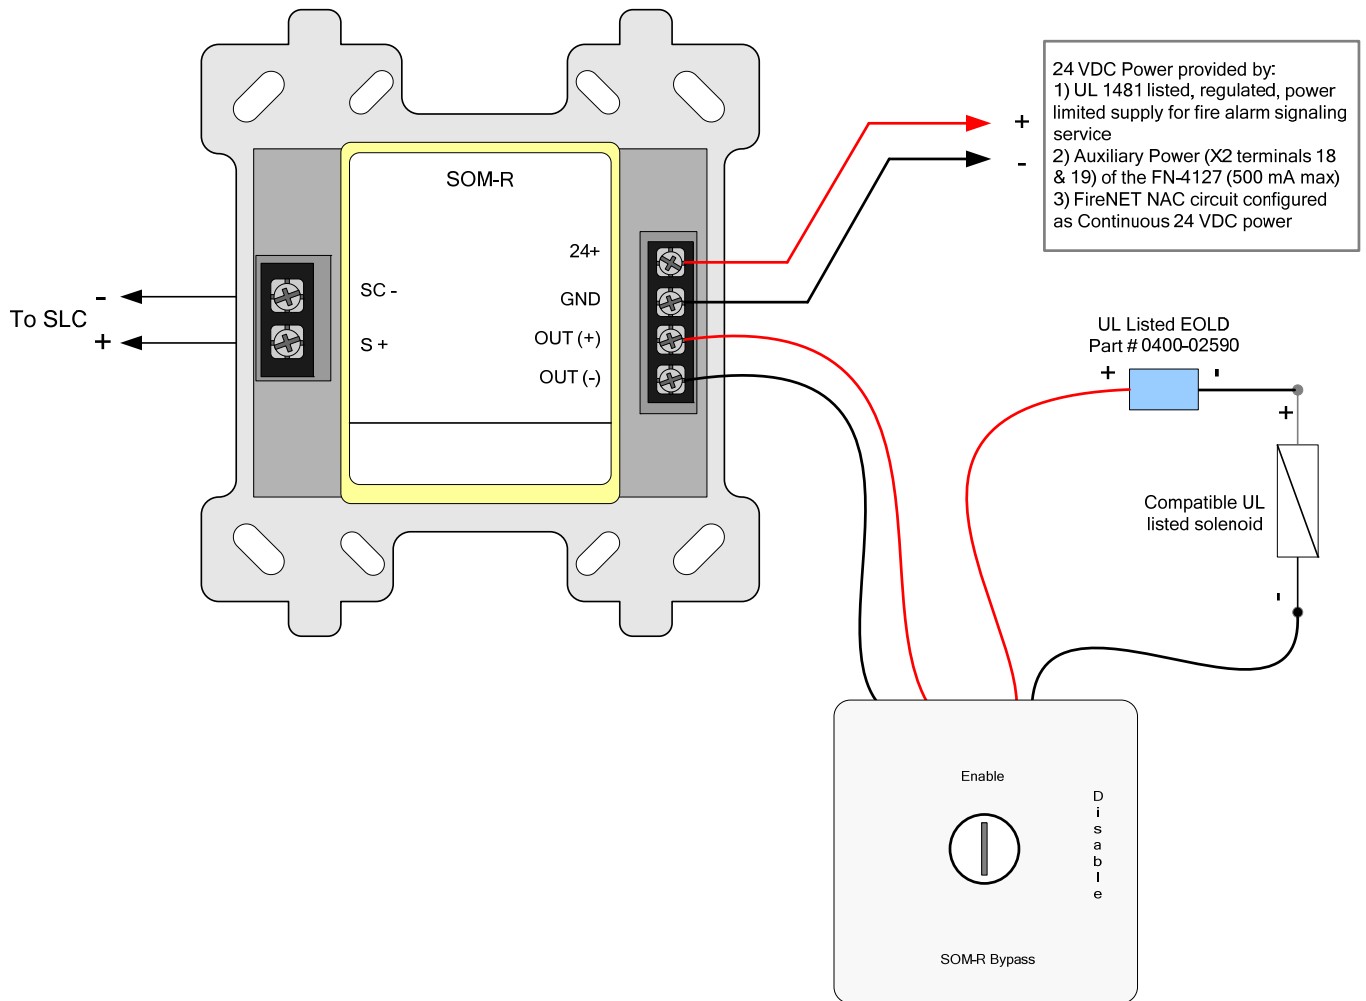

Figure 5.15.1 SOM-R Supervised Output Module Detail
2. The SOM-R must be addressed using the TCH-B100 programmer. Connect the SOM-R to the FN-2127/4127 SLC as shown in Figure 5.15.1. Refer to the installation instructions (Part # 1700-11320, Rev. 05/10) included with the SOM-R for additional wiring and installation instructions.
6. Connect the output terminals on the keyswitch disable module to the solenoid. Ensure that the EOLD is properly connected to the circuit as shown in Figure 5.15.1 above.